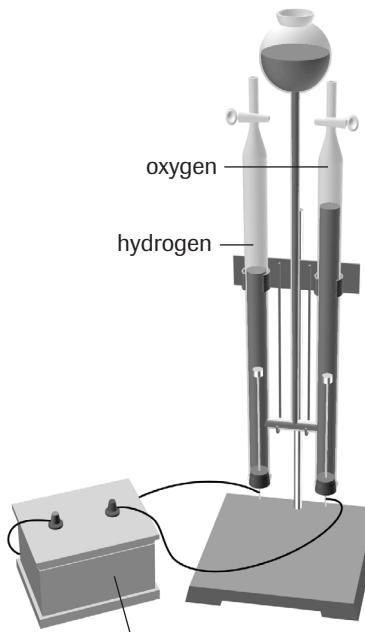

Figure 2
Electrolysis of aqueous copper(II) sulfate is carried out in a U-tube with carbon electrodes. Electrolysis of aqueous sodium sulfate and sodium chloride is carried out with platinum electrodes in a Hoffman apparatus (**Figure 2**) so the gases can be collected. Diagnostic tests, with any necessary control tests, are conducted to establish whether any of the predicted products are obtained.